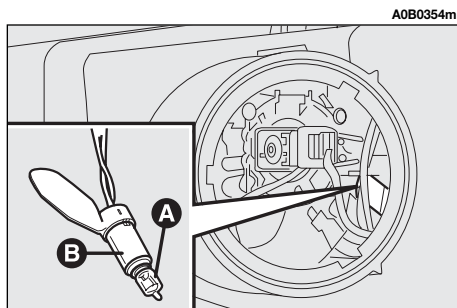

fig. 28
- Remove the bulb (**A-fig. 28**) from the bulb holder (**B**), pushing lightly and turning counter-clockwise.
- Replace the bulb and refit the bulb holder (**B-fig. 28**) in its housing.